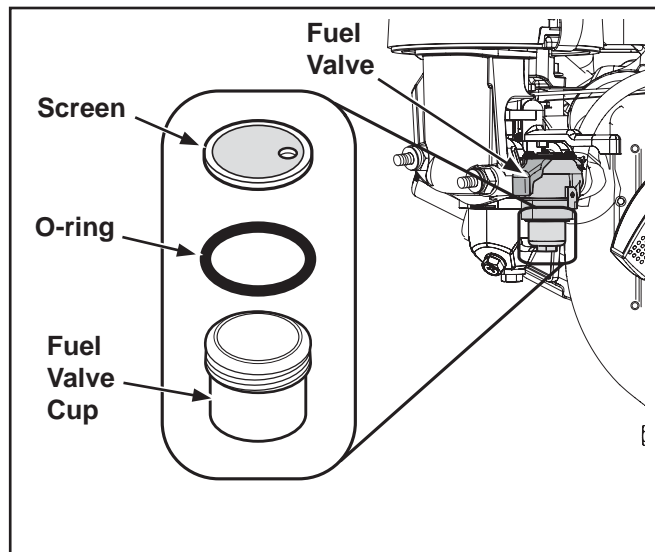

Figure 30. Fuel Valve Cup, O-ring, and Screen.
4. Remove the fuel valve cup. See Figure 30.